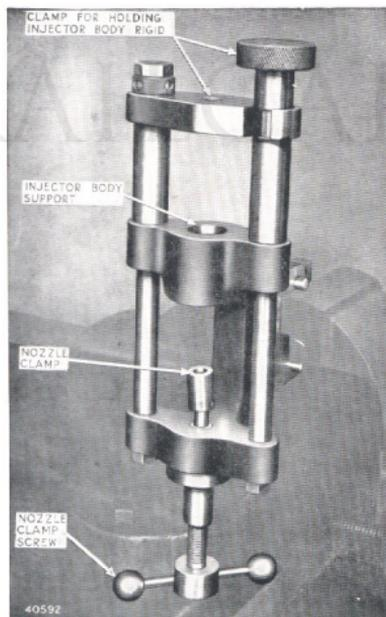

Fig. 65. Nozzle and needle aligning jig.
2. Fit the injector body in the jig. (Fig. 65).